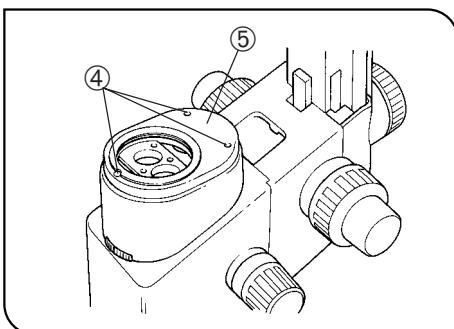

Fig. 30
4. Remove the objective from the zoom microscope body and remove the objective mount ⑤ by loosening the 3 clamping screws ④ using the provided Allen wrench (for M3 screws). (Fig. 30)